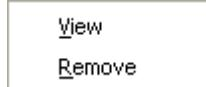

Figure 4.63 Batch Summary Report File right-click menu
- right-clicking the Batch Summary Report file in the Project Workspace window (Scripts tab) to invoke the pop-up menu shown in figure 4.63;
- right-clicking on the Batch Summary Report file to remove in the Project Workspace window (Scripts tab) to invoke the pop-up menu shown in figure 4.63.